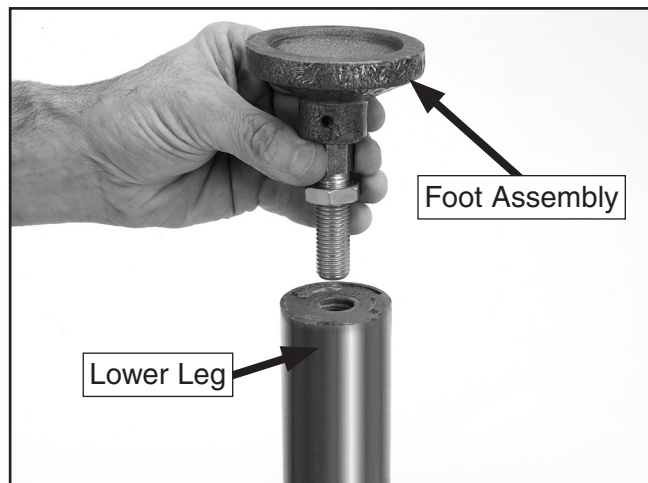

Figure 13. Foot attachment.
2. Thread one foot assembly into one of the lower legs, as shown in **Figure 13**. Repeat for the other seven feet.